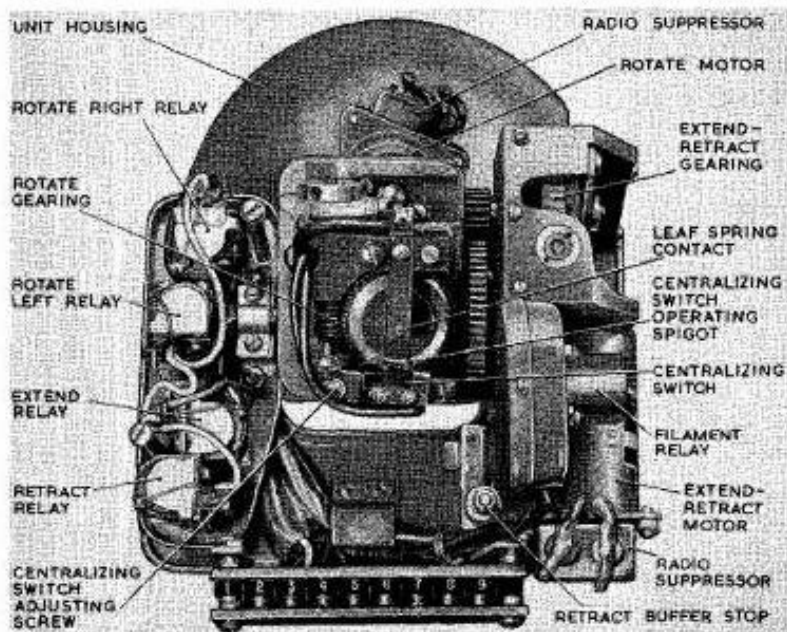

Fig. 2. Rear view of lamp with covers removed
3. The base plate of the base assembly is a "U" shaped plate which carries the journal shaft across the arms of the "U" shape. The journal shaft is mounted in a trunnion block at one end and in a plain bearing in the elevation gear box casting at the other, and carries the housing assembly. The base plate also accommodates the other components of the base assembly shown in a rear view of the lamp in fig. 2. The four motor-control relays are mounted on the left of the base plate and are post office type, change-over, relays which provide for the selection of movement of the lamp. The elevation motor is on the right of the base plate with its associated gear train, the final gear of which engages with a quadrant gear on the housing assembly. The filament relay is mounted within a box secured to the elevation gear casing on the left of the elevation motor.
rotation motor which provides continuous rotation of the housing, but a centralizing micro switch is provided to facilitate the parking of the lamp on retraction. The centralizing switch is fitted on the housing casting adjacent to the housing column (shown in fig. 2), and is operated by a leaf spring actuator, which is in turn operated by a spigot on the column spur gear. The leaf spring actuators used are modified Honeywell Type JS60 actuators, information on these actuators may be found in A.P. 4343C, Vol. 1, Book 1, Sect. 2.
- (1) Remove the cover of the rotate gear train.
- (2) Slacken off the adjustment screw (shown in fig. 2) holding the slotted end of the centralizing switch adjustment plate.
- (3) Remove the two Allen screws securing the worm to the rotation motor shaft and withdraw the worm. Slacken off the two Allen screws securing the spur gear to the housing column.
- (4) Turn the rotation gearing by hand until the spigot on the column spur gear is adjacent to the high contact point of